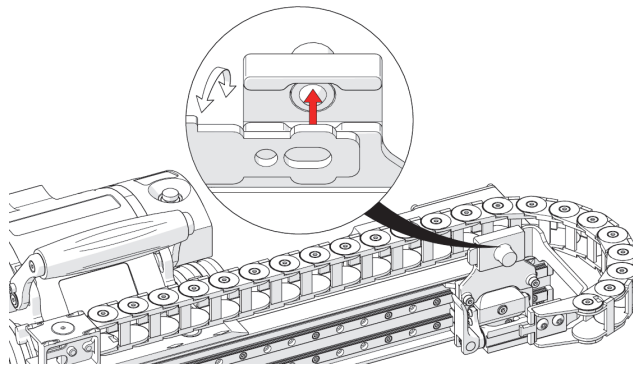

Figure 2-28 Press bracket to carriage
2. Press the cable tray bracket into the rear of the carriage bracket (see Figure 2-28 on page 67).